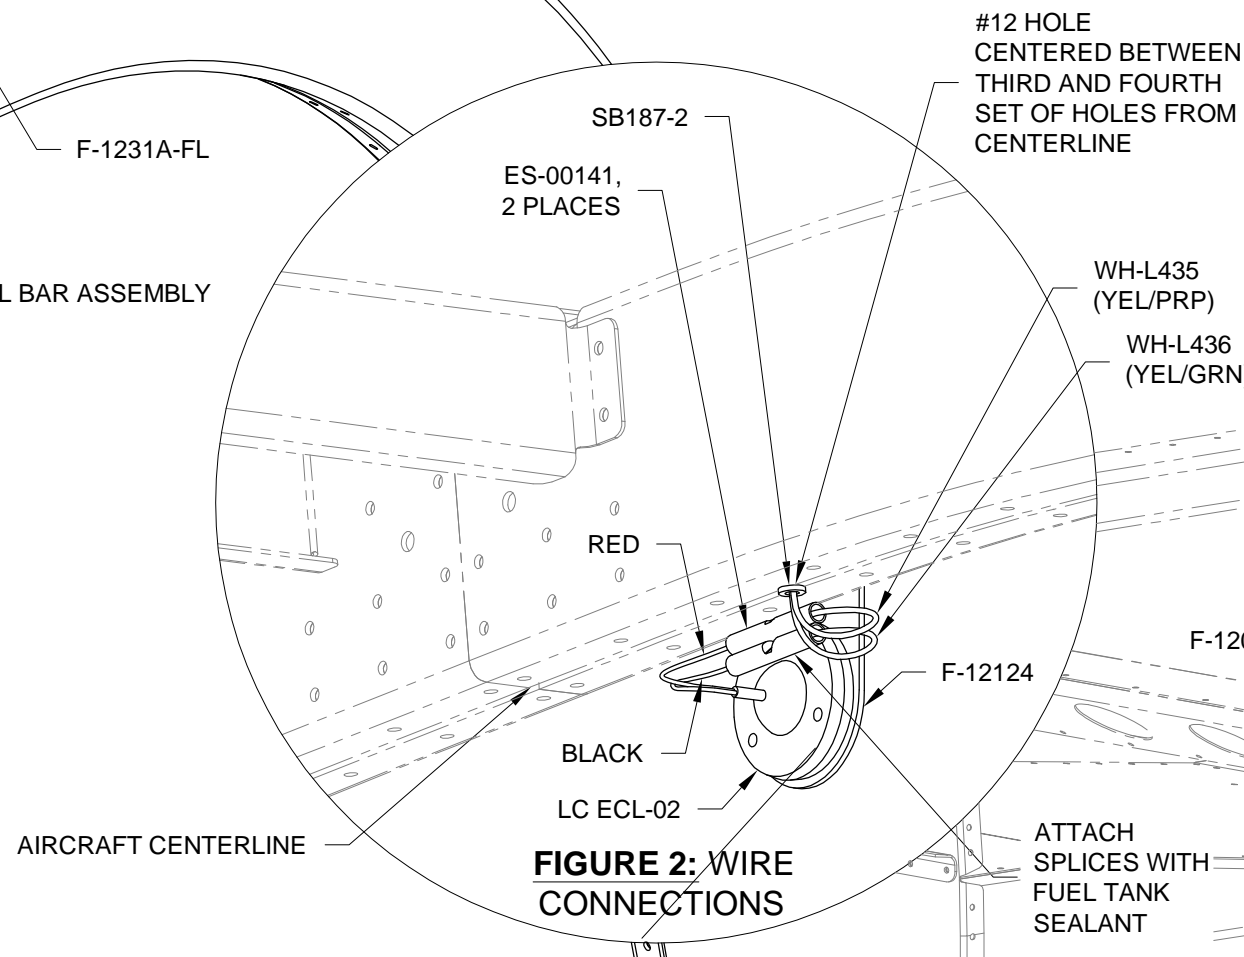

FIGURE 2: WIRE CONNECTIONS
Step 8: Crimp on butt splices as shown in Figure 2 to each of the two wires coming out of the LC ECL-02 Red Eyeball Cockpit Light.
Step 14: Route a piece of safety wire through the #12 hole made in Step 1 and down through the Roll Bar Assembly to the large hole at the base of the Roll Bar Assembly on the aft side as shown in Figures 2 & 3.
Pull the cockpit light power wire, cockpit ground wire and F-12126 Wire Tube up into the Roll Bar Assembly with the safety wire. Stop when the cockpit light power wire and cockpit ground wire has exited the #12 hole as shown in Figures 2 & 3.